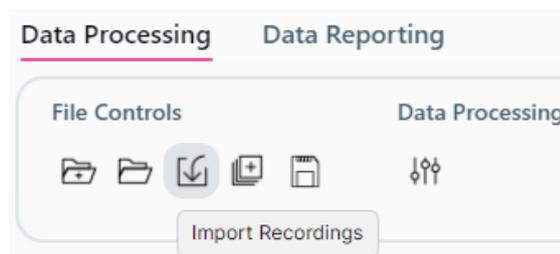

Figure 18. Import Recordings icon in IDS2.
6. Once the project has been created, it is ready to import recordings from a Pulsoid output folder. Start by clicking on the 'Import Recordings' icon (Figure 18).